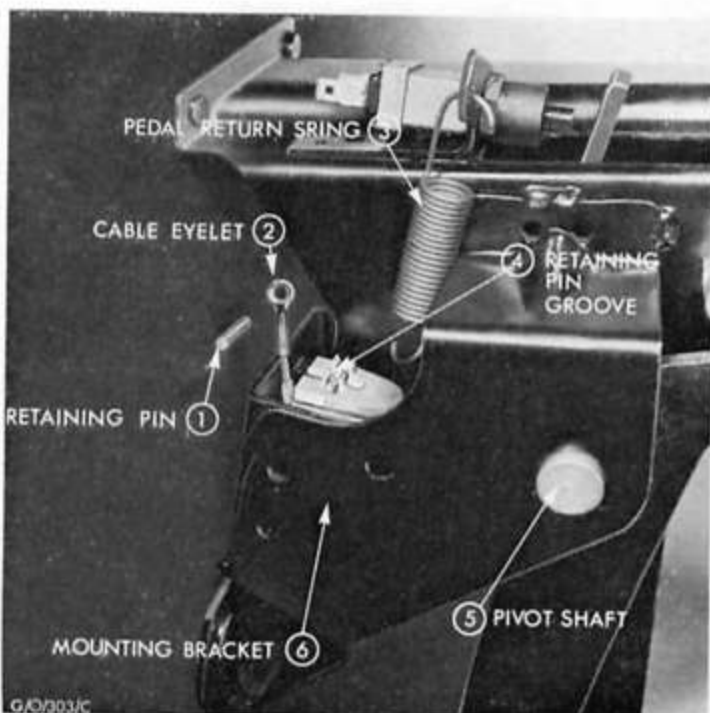

Fig. 23
3. Remove the retaining pin from the nylon seat (see Fig 23) and withdraw it from the eyelet.
1. Feed the upper end of the cable up through the pedal support bracket and through the nylon seat in the pedal. Slide the retaining pin through the hole in the cable eyelet and press the pin and eyelet into the groove in the nylon seat (see Fig. 23).
2. From inside the cab remove the retaining pin from the nylon seat (see Fig. 23) and withdraw it from the eyelet.
6. Disconnect the clutch cable from its pedal location (see Fig. 23).